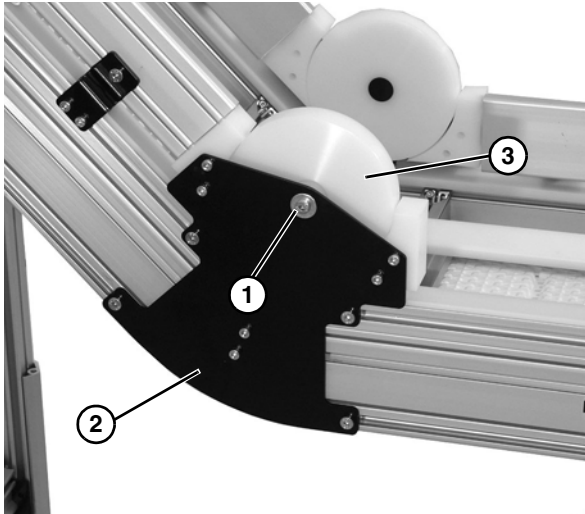

Figure 50
1. Remove cap screw (**Figure 50, item 1**), washer, and spacer on side of lower knuckle assembly (**Figure 50, item 2**), and remove hold down guide (**Figure 50, item 3**). Repeat on opposite side.